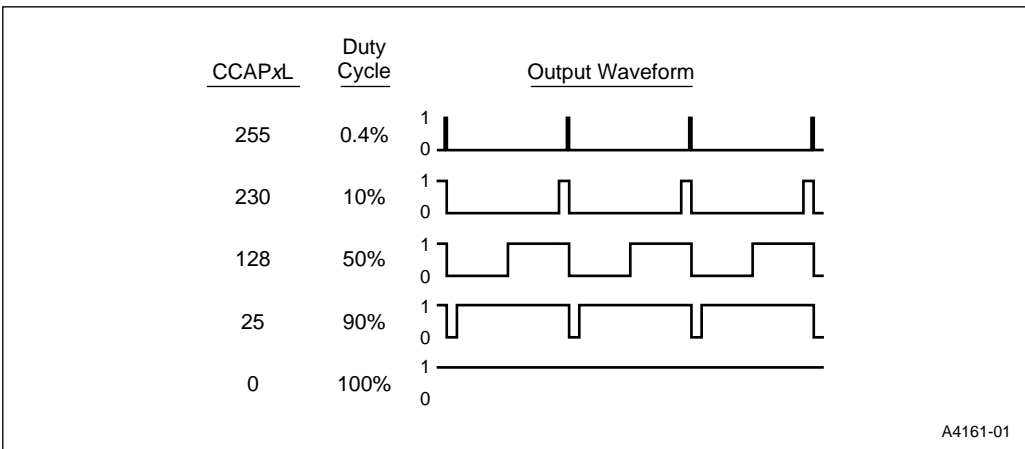

Figure 9-6. PWM Variable Duty Cycle
In this mode the value in the low byte of the PCA timer/counter (CL) is continuously compared with the value in the low byte of the compare/capture register (CCAP_xL). When $CL < CCAP_xL$, the output waveform (Figure 9-6) is low. When a match occurs ($CL = CCAP_xL$), the output waveform goes high and remains high until CL rolls over from FFH to 00H, ending the period. At roll-over the output returns to a low, the value in CCAP_xH is loaded into CCAP_xL, and a new period begins.
The value in CCAPxL determines the duty cycle of the current period. The value in CCAPxH determines the duty cycle of the following period. Changing the value in CCAPxL over time modulates the pulse width. As depicted in Figure 9-6, the 8-bit value in CCAPxL can vary from 0 (100% duty cycle) to 255 (0.4% duty cycle).